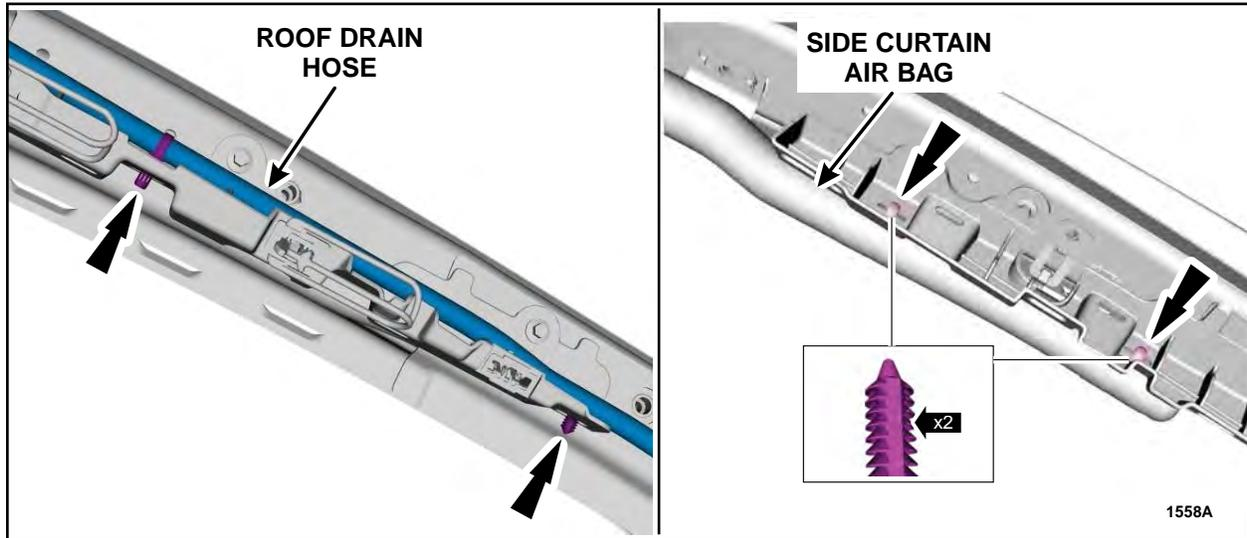

FIGURE 2
3. Disconnect the roof drain hose and side curtain air bag pin-type retainers from the A-pillar trim panel support bracket. Remove the A-pillar trim panel support bracket. See Figure 2.
7. Connect the roof drain hose and side curtain air bag pin-type retainers to the A-pillar trim panel support bracket. See Figure 2.